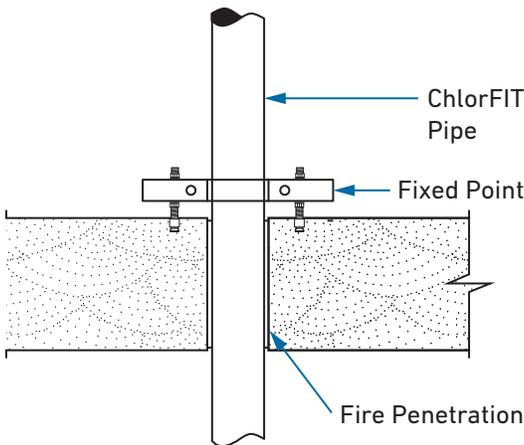

Figure 5-2: Anchor clamp at bottom of riser
- The other option would be to anchor the riser clamp at the bottom of the riser to the floor on alternating levels. See **Figure 5-2**.